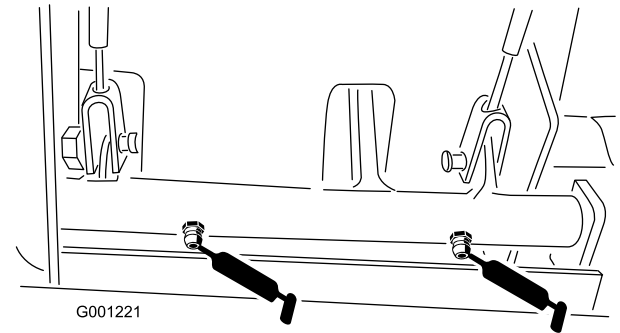

Figure 41
- Brake pivot bushings (Figure 41)
- Brake cables (drive wheel and brake pedal ends) (Figure 41)